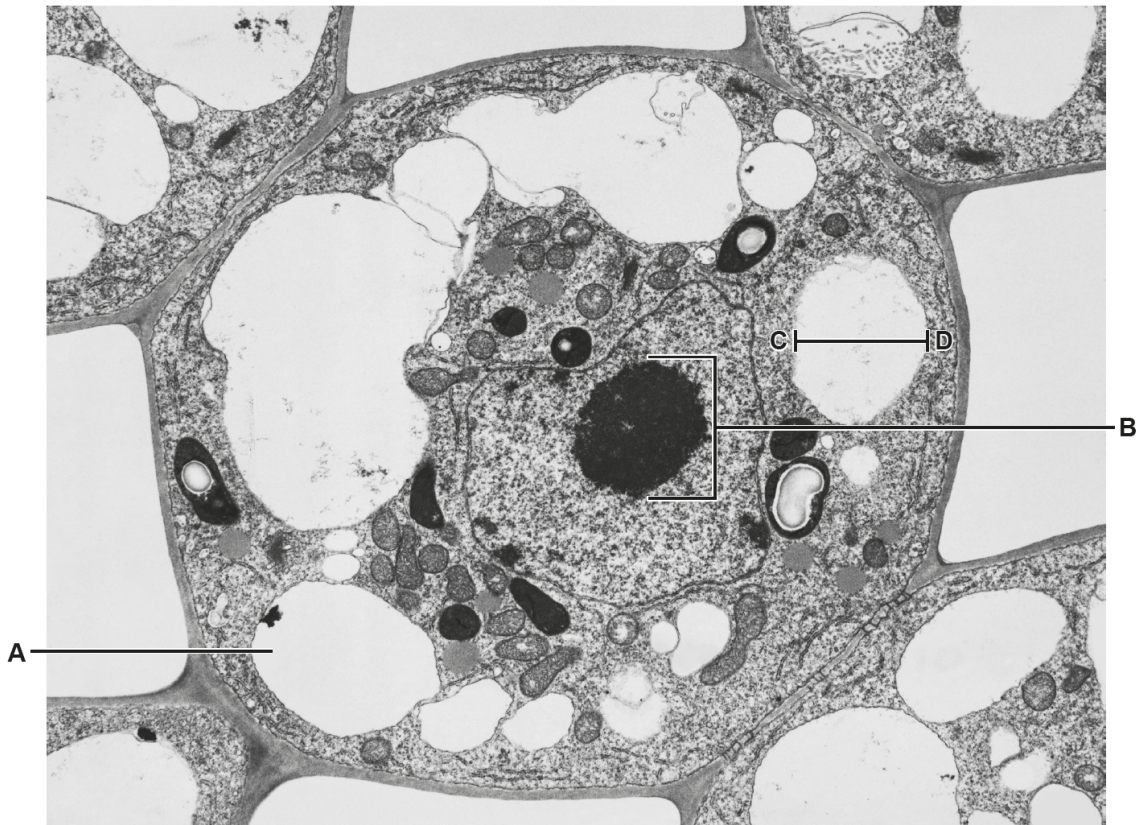

Fig. 3.4
- (c) Fig. 3.4 shows a transmission electron micrograph of a cell from a closely-related aquatic plant, sago pondweed.
- (ii) The real size of the line between **C** and **D** is 1.4×10^{-6} m. Calculate the magnification that was used to produce the image in Fig. 3.4. Give your answer to 2 significant figures.